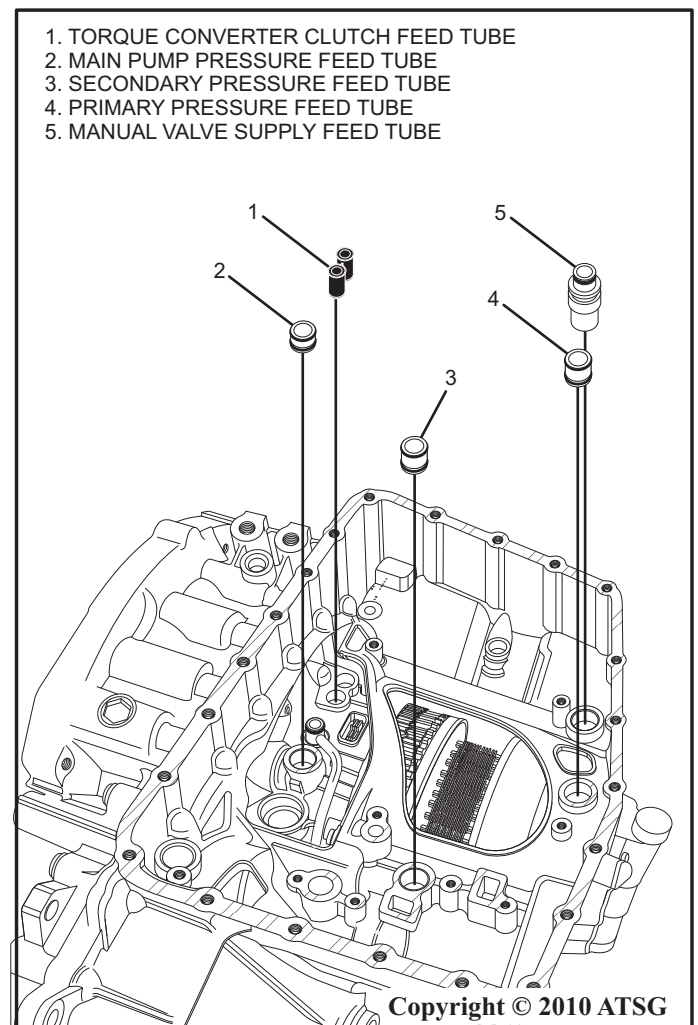

Figure 11
17. Remove the torque converter clutch feed tube from the case as shown in figure 11.
18. Remove the main pump pressure feed tube from the case as shown in figure 11.
19. Remove the secondary pressure feed tube from the case as shown in figure 11.
20. Remove the primary pressure feed tube from the case as shown in figure 11.
21. Remove the manual valve supply feed tube from the case as shown in figure 11.